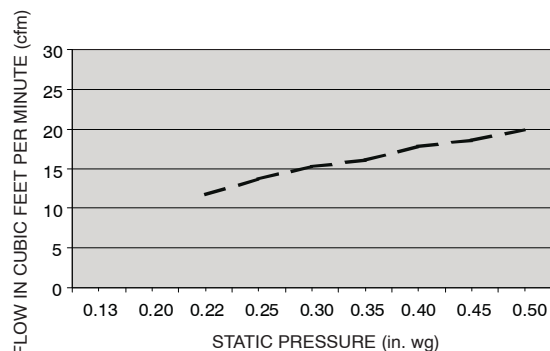

Fig. 52 - Outdoor-Air Damper Leakage
3. Ensure that the factory-installed jumper is in place across terminals P and P1. If remote damper positioning is being used, make sure that the terminals are wired according to Fig. 52 and that the minimum position potentiometer is turned fully clockwise.